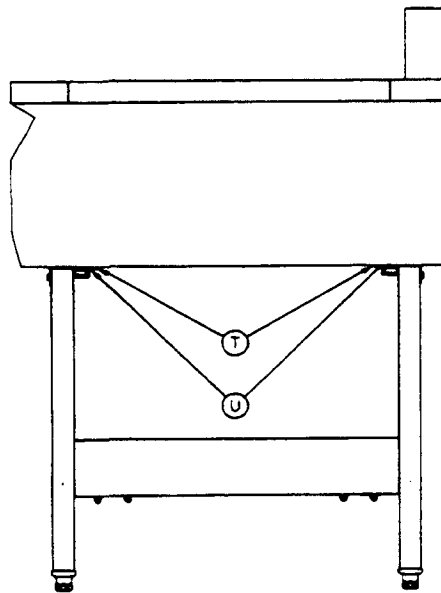

Figure 9
1. Mount angle support brackets item "T" to unit using #10 x 1/2" sheet metal screws item "IT" provided as shown in Figure 9. Mounting holes are prepunched for angle mounting.